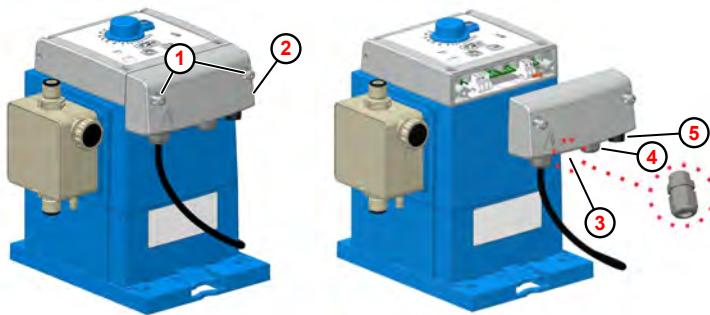

Fig. 11: Electrical installation 'EcoUp'
(3) Cable gland for metering volumes or alarm output
( Fig. 11 , (2) )
1. ➤ Loosen the two housing screws ( Fig. 11 , (1) ). The screws are secured against falling out.
2. ➤ Remove the terminal cover (2) .
3. ➤ To connect a metering volume or alarm output, mount the supplied M12x1.5 cable gland in the appropriate place (3) , run the cable, tighten the screw connection and the connect cable wires according to the terminal diagram.
4. ➤ To connect to the pulse input or enable input, pass the cable through the cable union (4) tighten the threaded union and connect the cable wires according to the terminal diagram.
5. ➤ The connection for the level input must be connected to the socket (5) provided for this purpose.
6. ➤ After all installation work has been completed, fit the terminal cover (2) and tighten the fixing screws (1) .
The terminals can be accessed after removing the terminal cover ( Fig. 11 , ② ).